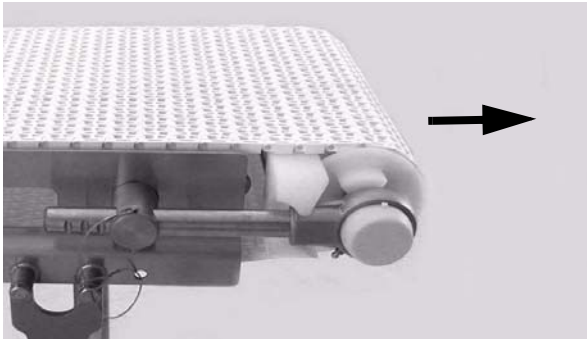

Figure 35
7. Extend the tension end to remove excess slack in the belt (**Figure 35**).